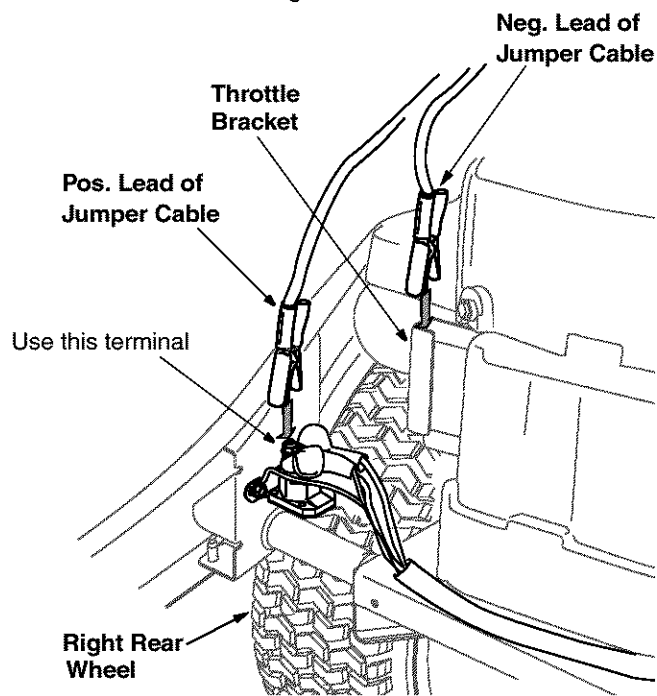

Figure 19
1. Pull back the boot from the forward most terminal connected to the solenoid. See Figure 19.
2. Connect the positive (+) lead of the jumper cable to this terminal. See Figure 19.
5. Connect the other end of the negative (-) cable to the throttle bracket. See Figure 19.
11. Replace boot over the forward most terminal from where you removed it in Step 1. See Figure 19.
2. With the battery charger off, connect the positive (+) lead of the charger cable to this terminal. See Figure 19.
7. Replace boot over the forward most terminal (from where you removed it in Step 1). See Figure 19.